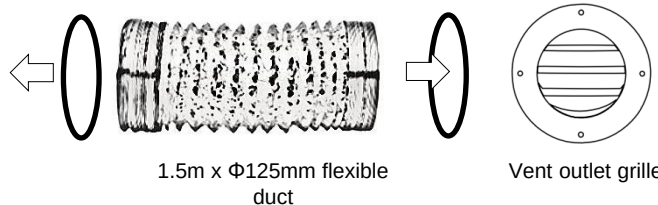

Fig.6
- 8) Attach ducting if required (Fig.6) to extract the air to the outer wall using 1.5 long flexible ducting, cable ties and vent outlet grill provided. Fix and tighten the cable ties firmly to hold the flexible duct to the unit and the outer wall vent.